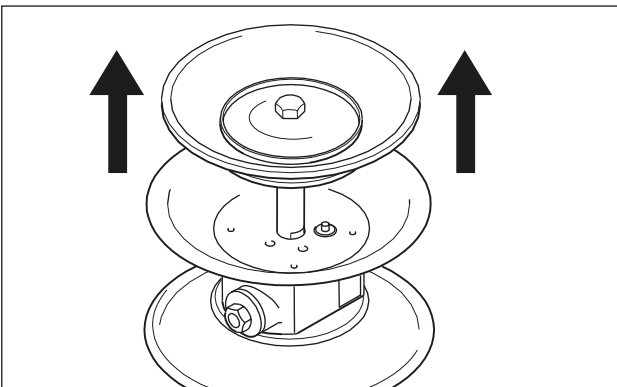

Fig. 12: Pulling out the piston rod.
- Pull the piston rod with the second diaphragm out of the central block and disassemble the second diaphragm as described before (Fig. 12).
- Pull the piston rod with the second diaphragm out of the central block and disassemble the second diaphragm (Fig. 12).